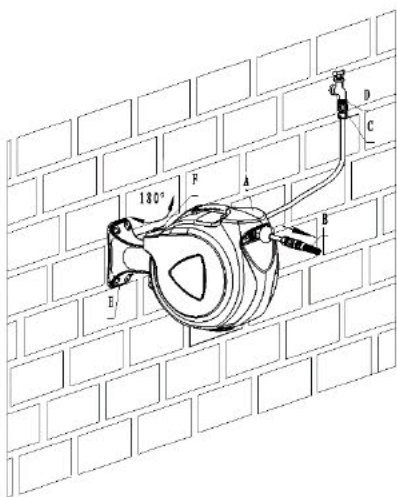

Fig. 8
6. Here the reel is fully installed and can swivel  $180^\circ$ . (Fig. 8)